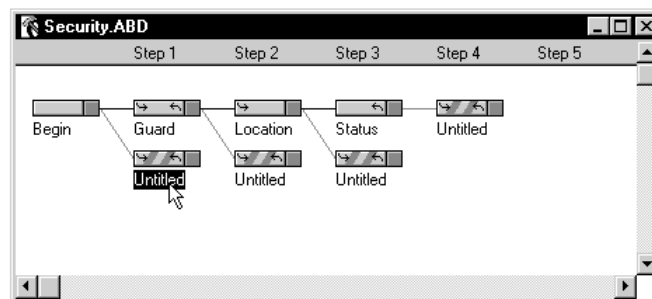

Figure 4-54 Select Detour Handler
28. Select the Detour Handler connected to the “Begin” Handler (Figure 4-54).